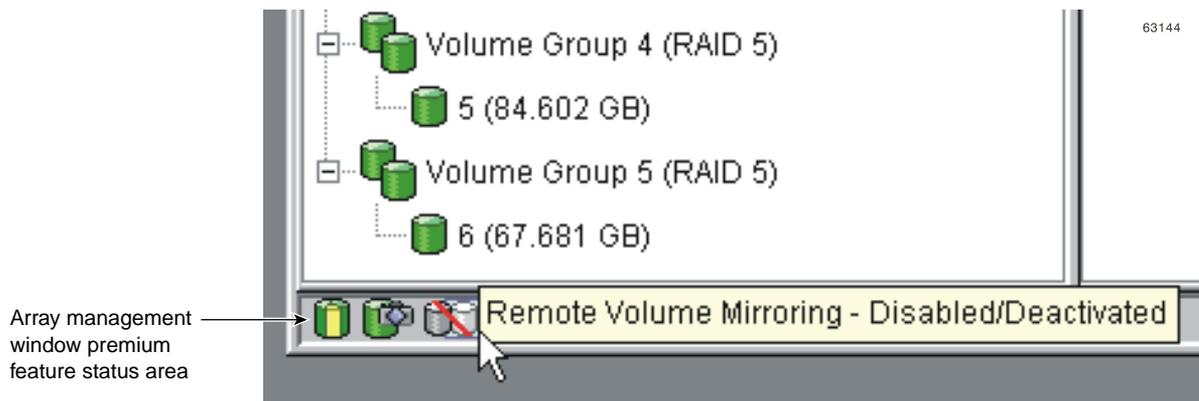

Figure 3-32 Remote Volume Mirroring Feature Status
The current status can be determined by hovering the mouse pointer over the Remote Volume Mirroring feature icon in the premium feature status area of the **Array Management** window, as shown in Figure 3-32.
- **Disabled/Deactivated** – No functions of the Remote Volume Mirroring feature can be performed. Full Remote Volume Mirroring feature functionality is not available until the feature is enabled and activated. The icon for this state is displayed in the premium feature status area as a cylinder with a mirrored reflection. The icon has a red slash through it to show it is disabled, and is greyed out to show it is deactivated. An example of this state is illustrated in Figure 3-32. For more information about enabling the Remote Volume Mirroring feature, see “Enabling the Remote Volume Mirroring Feature” on page 126. To activate the feature, see “Activating the Remote Volume Mirroring Feature” on page 126.